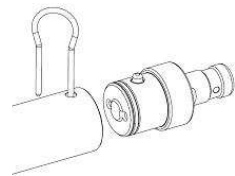

fig. 19
- With the locking device, push in the other locking bolt and pull-out the inlet part. (fig. 19)